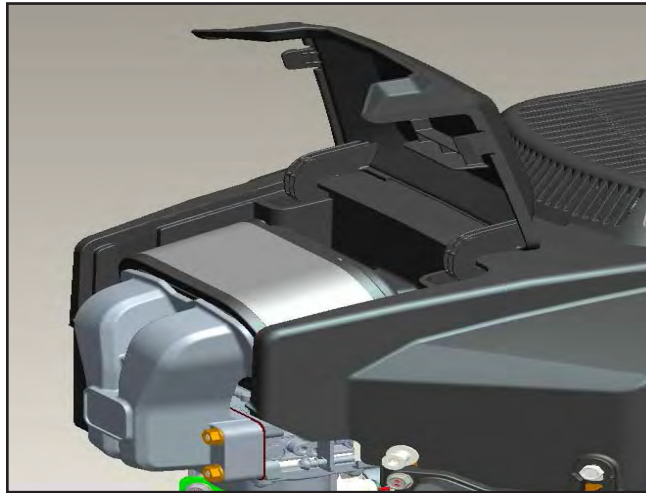

Figure 1
**Introduction:** The air intake system is a unique air filtration system containing a heavy duty air filter door, dual element air filter, self-cleaning air box and cast aluminum air filter manifold (Figure 1).